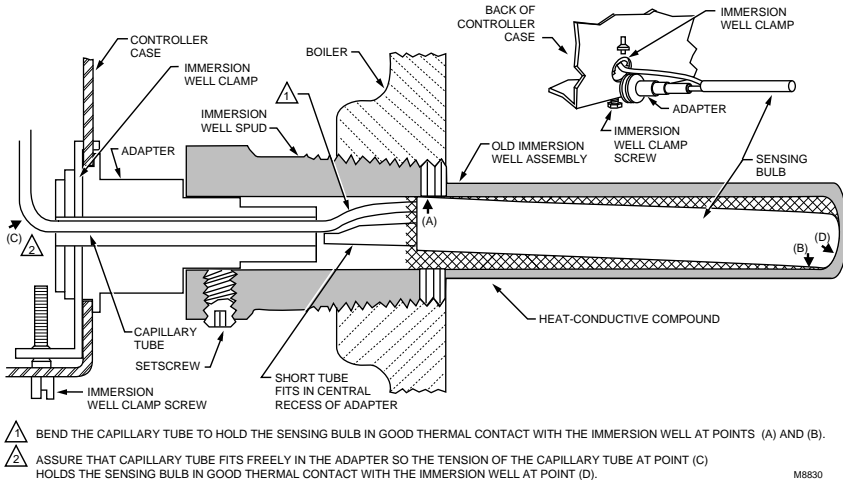

Fig. 1. Use of adapter and proper position of sensing bulb in immersion well.
If well does not snugly fit bulb, use the heat-conductive grease. Fold the plastic bag of grease lengthwise and twist it gently. Then snip off end of bag and work the open end all the way into the well. Slowly pull out bag while squeezing it firmly to distribute grease evenly in the well. Insert bulb all the way to the bottom of the well. Bend the tubing, if necessary, to hold the bulb against the bottom of the well and to hold the outer end of the bulb in firmly to the side of the well (Fig. 1). Wipe excess grease off outer end of the well.
4. Loosen the insertion well clamp screw (Fig. 1).
- c. Fasten the case to the well with the clamp screw. Make certain that the clamp is properly positioned on the well and the well flange fits snugly into the opening in the case. The sensing element bulb must bottom in the well for best temperature response. (A slight bend in the tubing holds the bulb against the well.) See Fig. 1.
- a. Fit sensing element capillary into the adapter groove (Fig. 1).
- d. Insert the bulb and adapter into the well. The sensing element bulb must bottom in the well for best temperature response. (A slight bend in the tubing will hold the bulb against the well.) See Fig. 1.
- e. Tighten the setscrew. Make certain that the adapter groove is on the opposite side of the setscrew (Fig. 1).